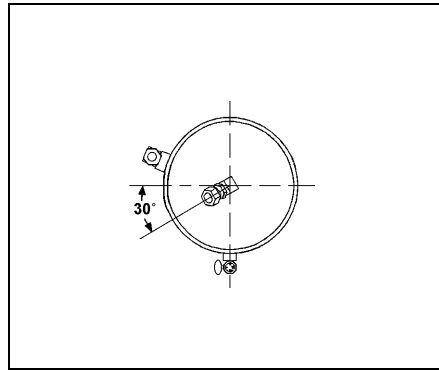

FIGURE 6: WET TANK
3. Bleed air from wet tank by opening drain valve located underneath tank (refer to fig. 6).
15. Replace 90° elbow located on wet tank with a 45° elbow (Prévost #501528) plus male reducer coupling (Prévost #640995). Position 45° elbow to obtain 30° with reference to horizontal (refer to fig. 6).